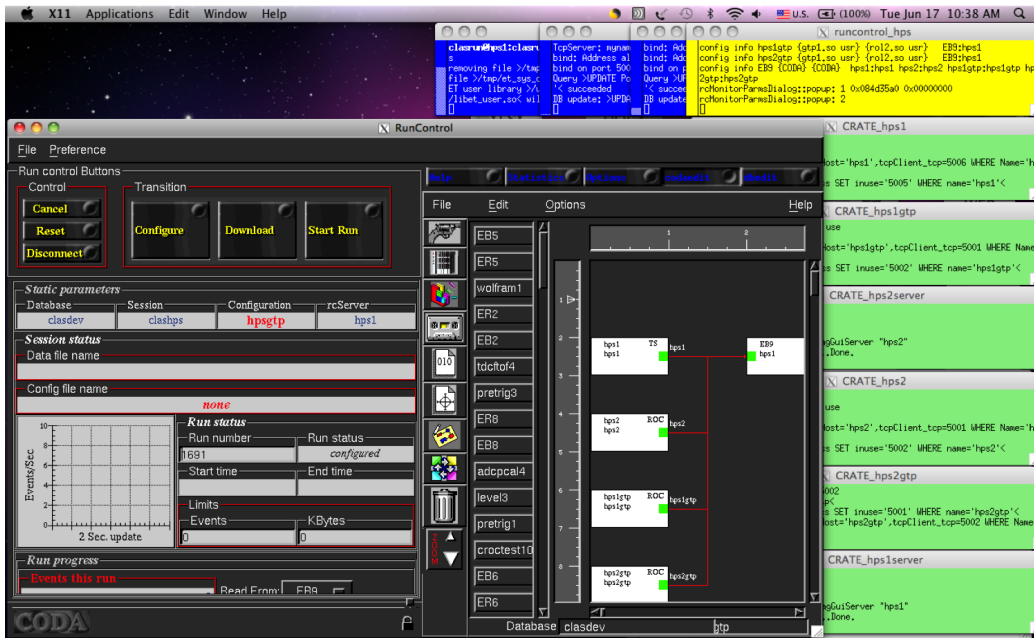

Figure 2: CODA workspace.
- The workspace should look like Fig. 2.